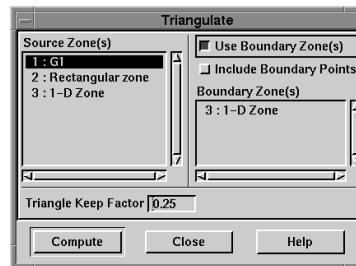

Figure 24-21. The Triangulate dialog.
1. From the Data menu, choose Triangulate. The Triangulate dialog appears, as shown in Figure 24-21.